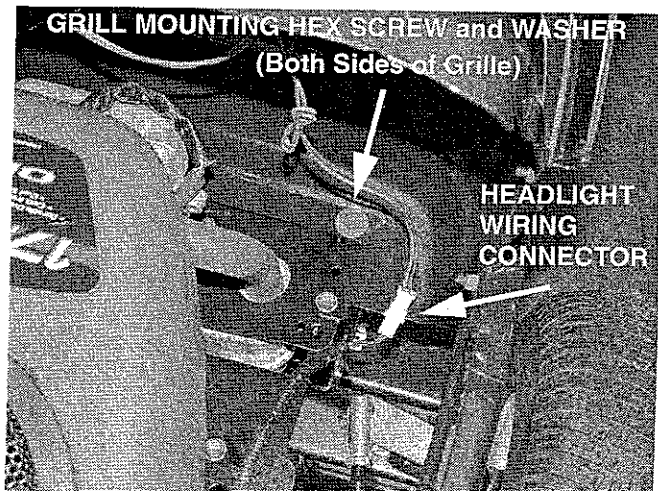

FIGURE 4
10. Raise the hood and disconnect the head light wiring connector located inside the lower right side of the front grille. See Figure 4.
11. Using a 1/2" socket and extension, remove the two (2) hex screws and flat washers securing the grille to the frame. See Figure 4.